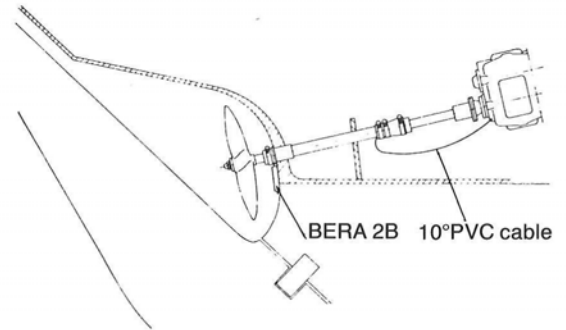

Fig. 19
- 3.11. Check that there is electric contact at the sterntube at the internal connection to the gearbox (fig. 19).